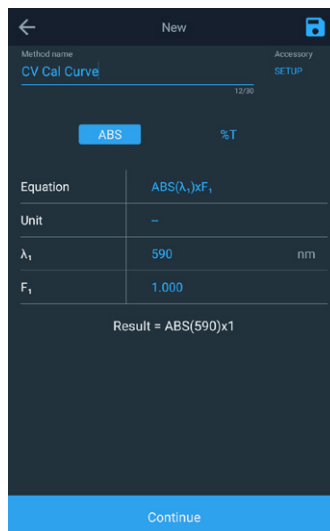

Figure 2. Fixed application parameters for the Genesys instruments.
3. Setup the “Fixed” application on the UV-Visible instrument with the following parameters (See Figure 2):